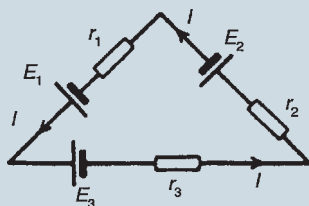

Figure 15.89
2. Which of the following statements is true? For the circuit shown in Fig. 15.89: